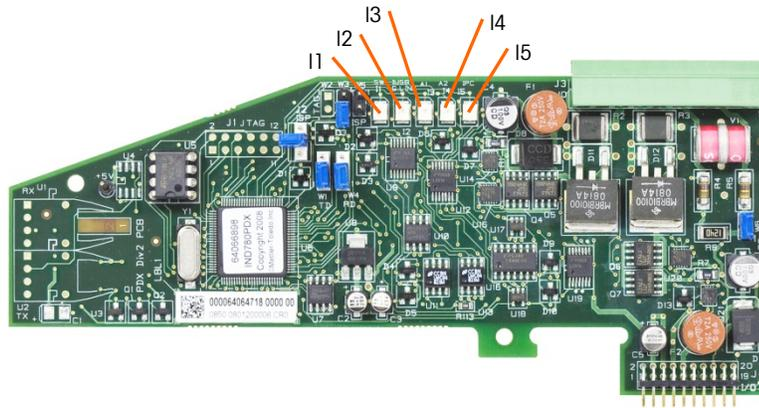

Figure 4-7: Board LEDs
2. Access **Setup > Maintenance > Run > Restore from USB**. A screen like the one shown in Figure 4-7 will appear.